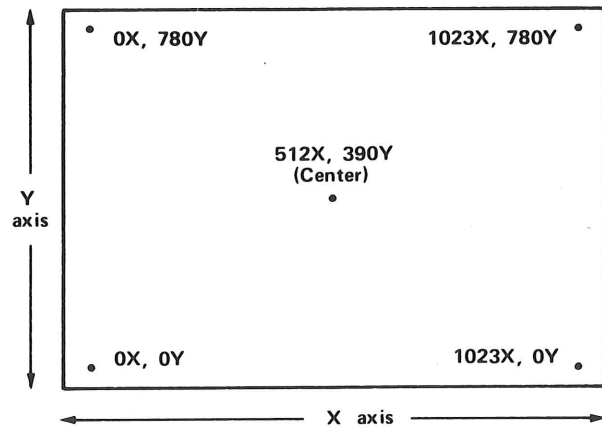

Fig. 1-6. Basic address positions on the display screen.
**Receiving**—Alpha Mode causes alphanumeric characters to be written as received; control characters are executed as received; Terminal goes into a reduced intensity status (Hold) after approximately 90 seconds of inactivity; Terminal returns to View status upon keyboard entry or upon receipt of data from the computer. Graph Mode causes received data to be interpreted as specific addresses for the X and Y registers within the Terminal, resulting in moving the display unit beam to specific positions; the basic address positions are shown in Fig. 1-6. Control characters are executed as received.